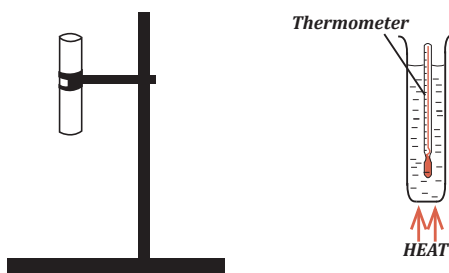

Figure 11.1; comparing the energy values of food.
1. Clamp the boiling tube as shown in figure 11.1